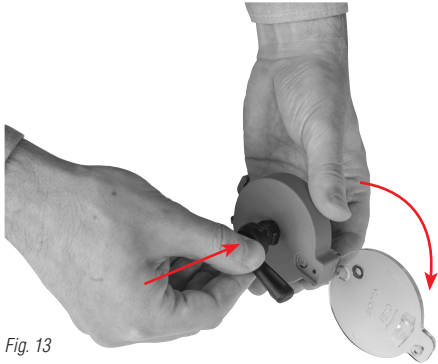

Fig. 13
2. Swing the clear cover counter-clockwise and open it. Place the winding tool onto the hexagonal hub on the back of the magazine. **(Fig. 13)**